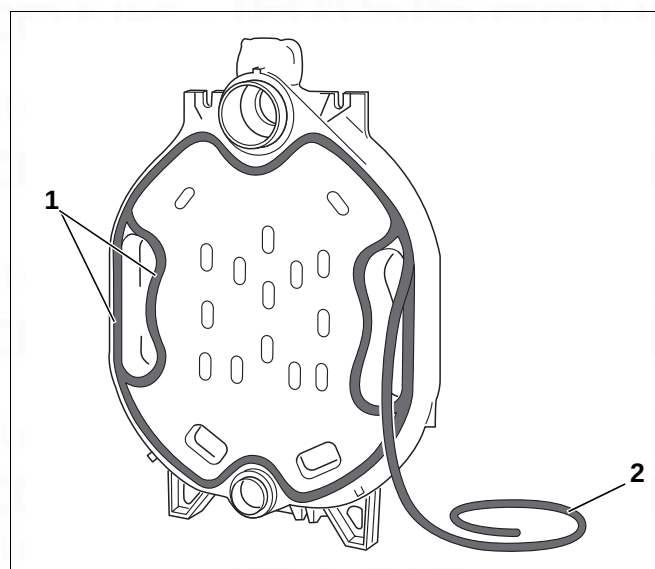

Fig. 11 Inserting packing cord (KM cord)
- ▶ Insert the flexible packing cord (KM cord: (Fig. 11, [2]) on the front of the rear section, starting around the upper hub, into the packing grooves (Fig. 11, [1]) and press in lightly. At the butt joints, overlap the packing cord by approx. 2 cm and press firmly together.